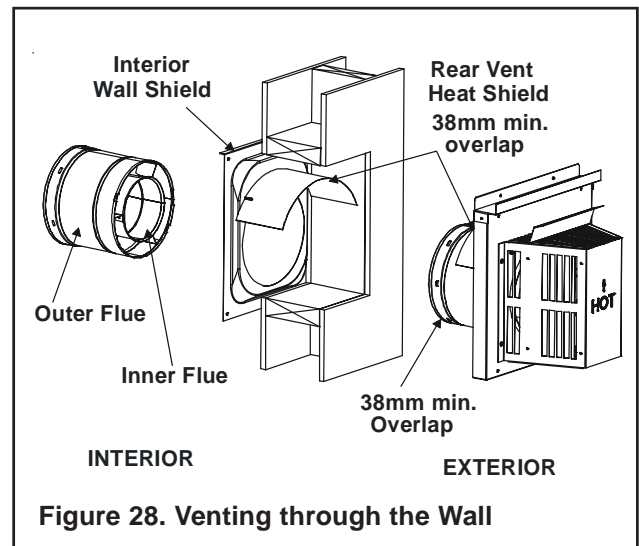

Figure 28. Venting through the Wall
- One section of the heat shield is attached to the wall shield. The other is attached to the termination cap in the same manner (see Figure 28).
- The small leg in the shield rests on top of the flue to properly space it from the pipe section (see Figure 28).